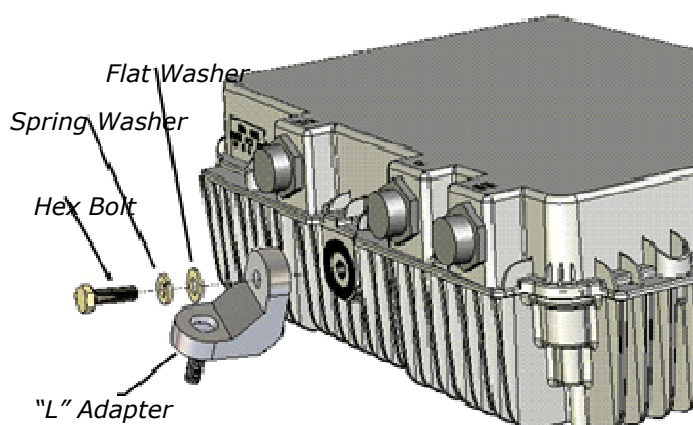

Figure 3. Mount 'L' Assembly
-  Attach the 'L' adapter to the GoBeam 5100/6100 using an M8x25 hex bolt [G], a spring washer [I], and a flat washer [H], as illustrated in Figure 3.